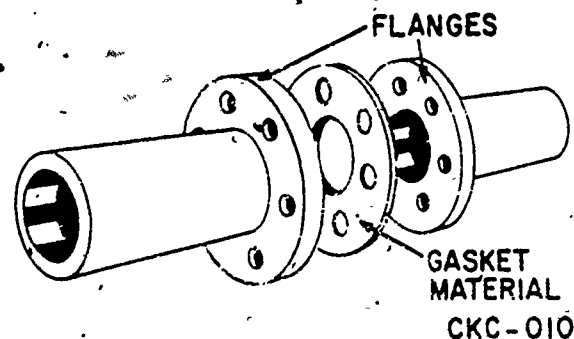

Figure 1-3. Flange fittings.
e. **Flange.** The flange joint, as shown in figure 1-3, has proved its general utility and satisfactory performance. It is used in the installation of pumps, chillers, heat exchangers, and other equipment. The flange itself is molded separately from the pipe. The flange is attached to the pipe by a screwed connection or by welding. A gasket is used between the flanges to form a seal, then bolted securely together to form a watertight or gastight connection.